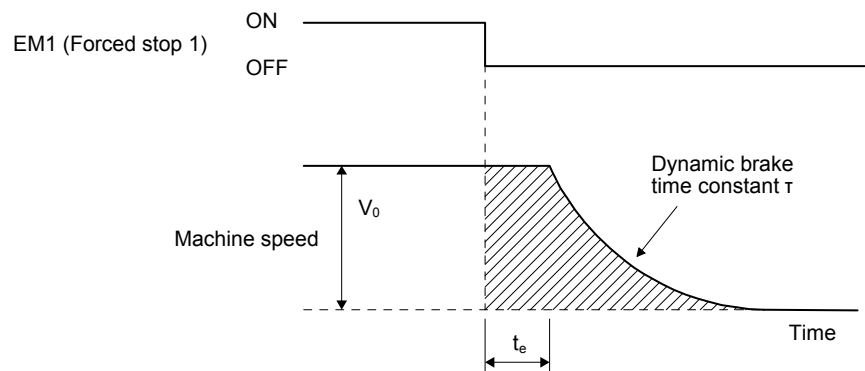

Fig. 10.3 Dynamic brake operation diagram
(1) Calculation of coasting distance
Fig. 10.3 shows the pattern in which the servo motor comes to a stop when the dynamic brake is operated. Use equation 10.2 to calculate an approximate coasting distance to a stop. The dynamic brake time constant τ varies with the servo motor and machine operation speeds. (Refer to (2) of this section.)